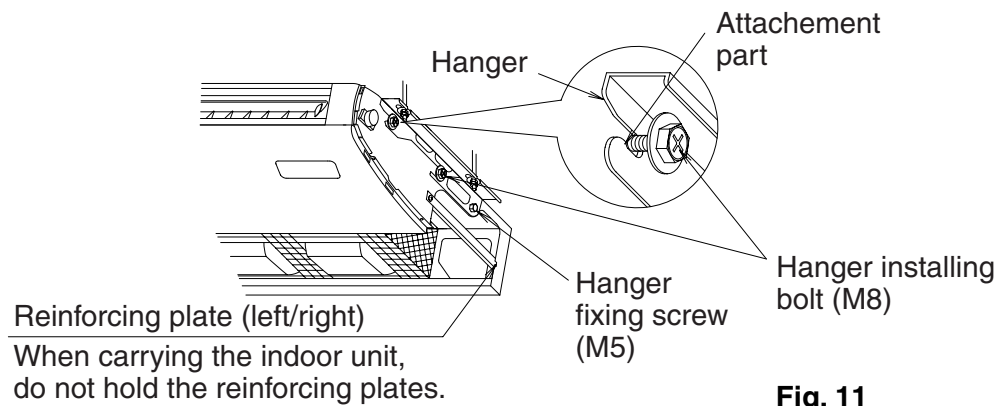

Fig. 11
- (2) Lift up the indoor unit, slide from the front and put the hanger installing bolt (M8) into the securely for temporary hanging. **(Refer to Fig. 11)**
- (3) Tighten the hanger fixing screws (M5) at 2 places, which were removed, as they were before. **(Refer to Fig. 11)**
(4) Tighten the hanger installing bolts (M8) at 4 places securely. (Refer to Fig. 11)